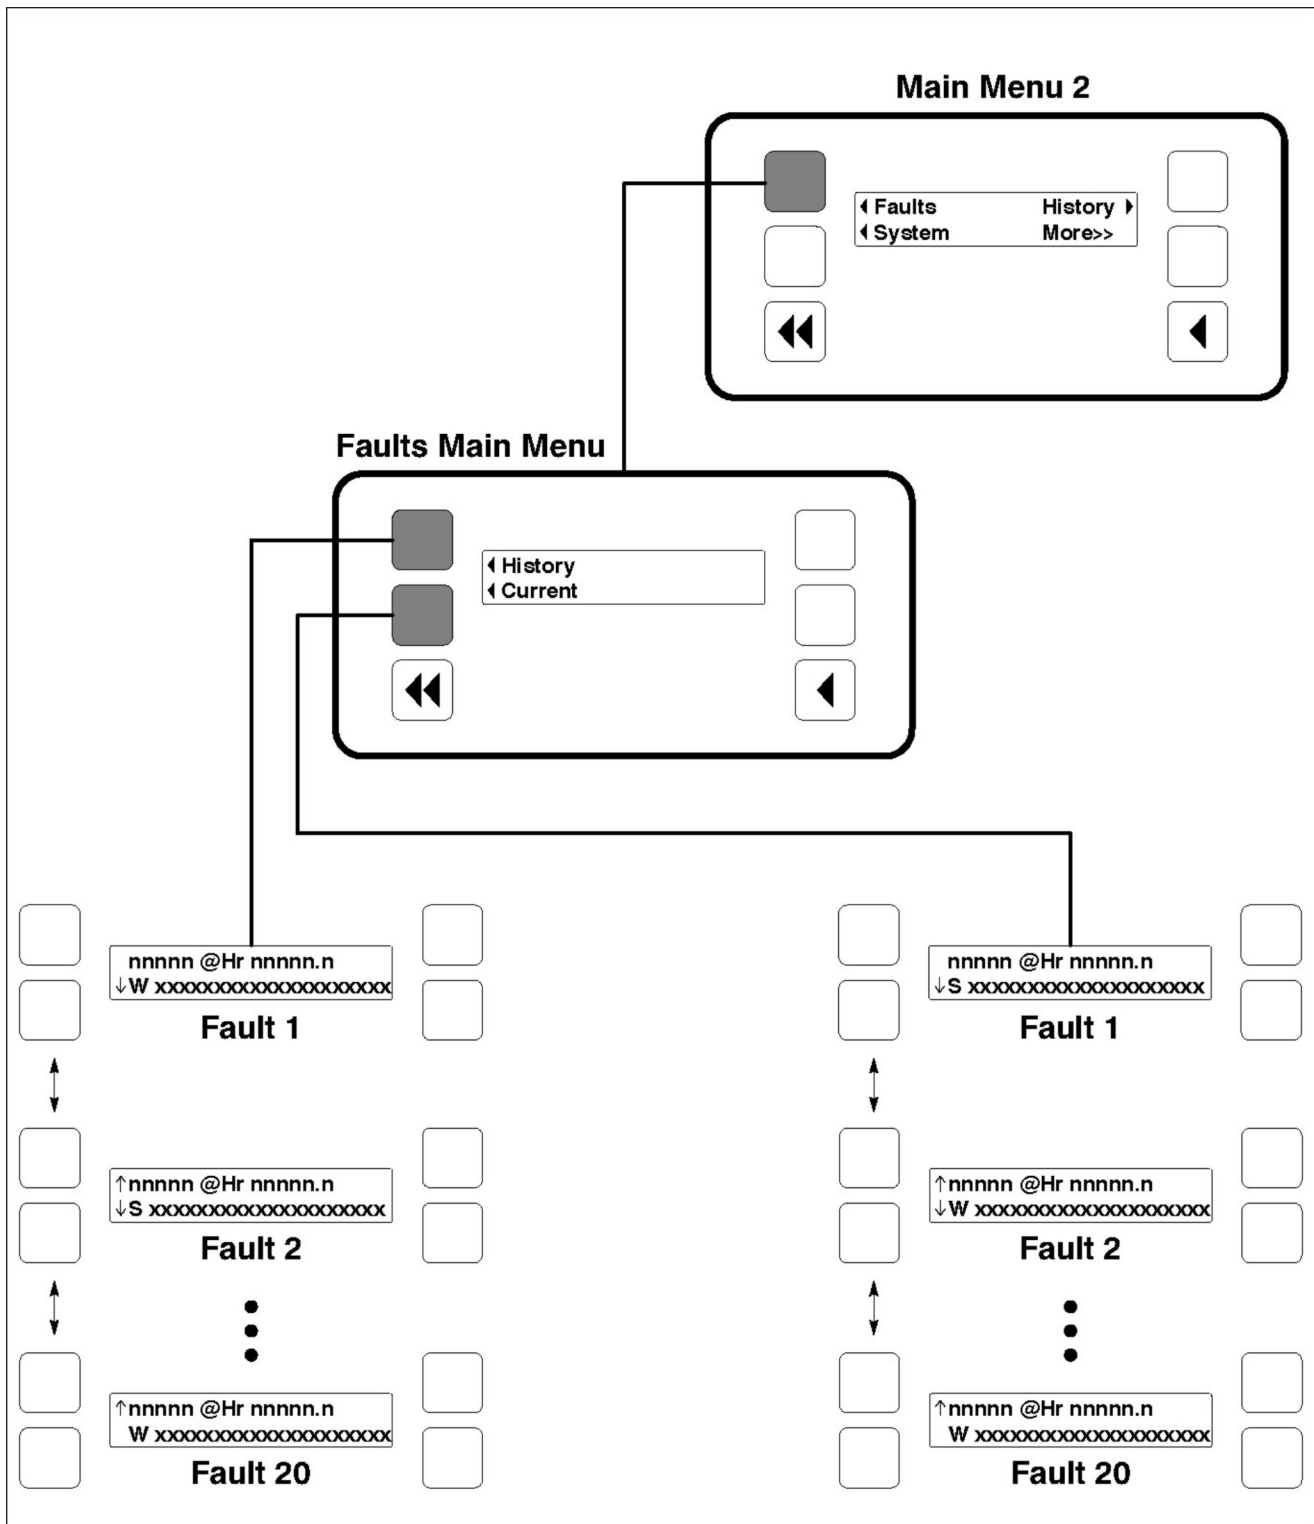
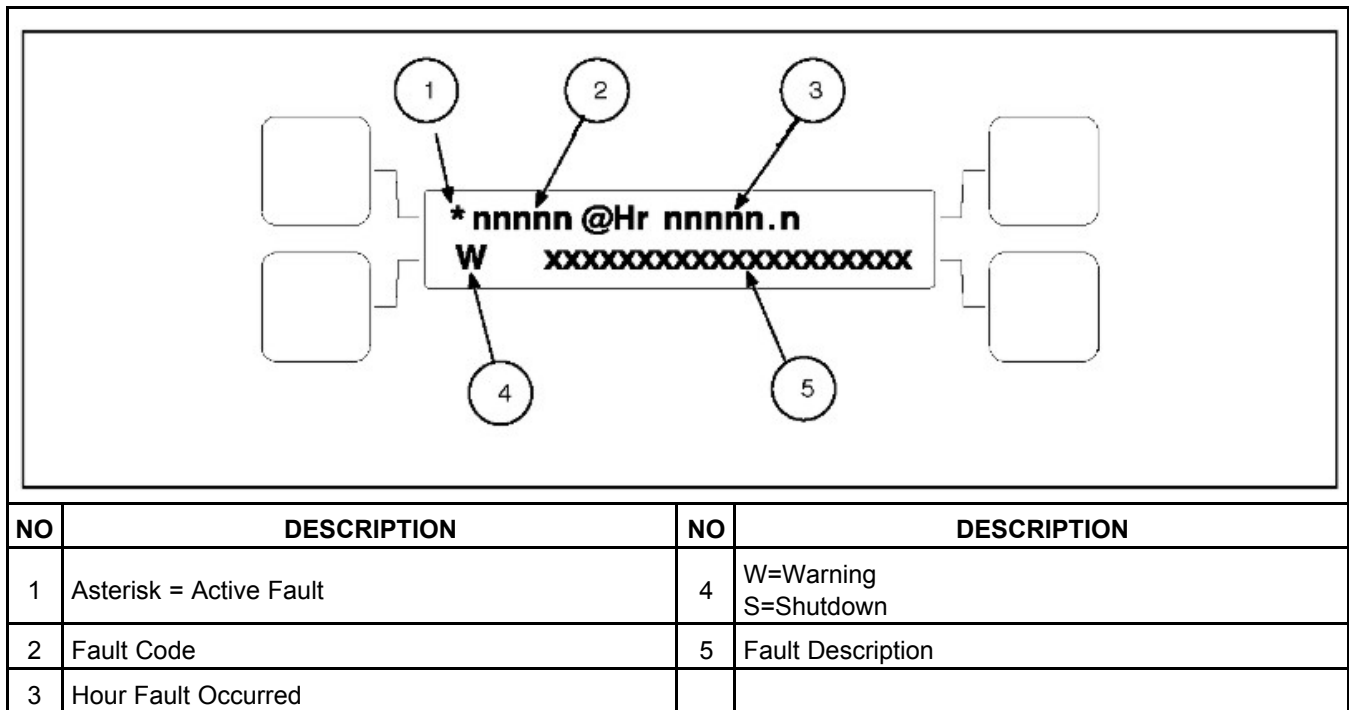

FIGURE 10. FAULTS MENU
FIGURE 11. HISTORY/CURRENT FAULT SUBMENU
**Figure 10** shows a block representation of the Faults menu. Up to 20 of the most recent faults can be viewed. An example of how a fault code is displayed is shown in **Figure 11 on page 33**.